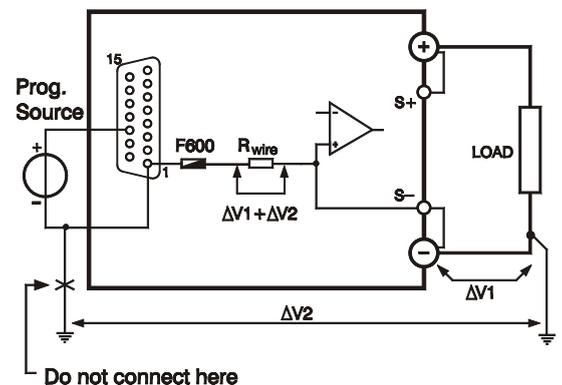

fig. 4 - 8
- To check the fuse (F7_1) measure the voltage between Ø and the minus output, during the fault condition. The voltage should only be a few mV, a high voltage means that an unwanted current is flowing through pin 1 of the prog. connector. Please check why current is flowing through pin 1 (see also next paragraph 4) and fig. 4 - 8).
- **Unwanted offsets in the programming can be caused by earth loops.** Fig. 4 - 8 shows a typical earthing problem. In case the load has a connection to earth and the programming source as well, problems could occur. Improper choice of the earthing point of the load can give a voltage drop of $\Delta V1$. Connecting the minus or zero to a separate earth connection can give a voltage drop of $\Delta V2$. Because the internal wires of the programming input are thin, the voltage drops $\Delta V1$ and $\Delta V2$ will be across the internal wiring as well. Resulting in a error voltage in series with the programming voltage.